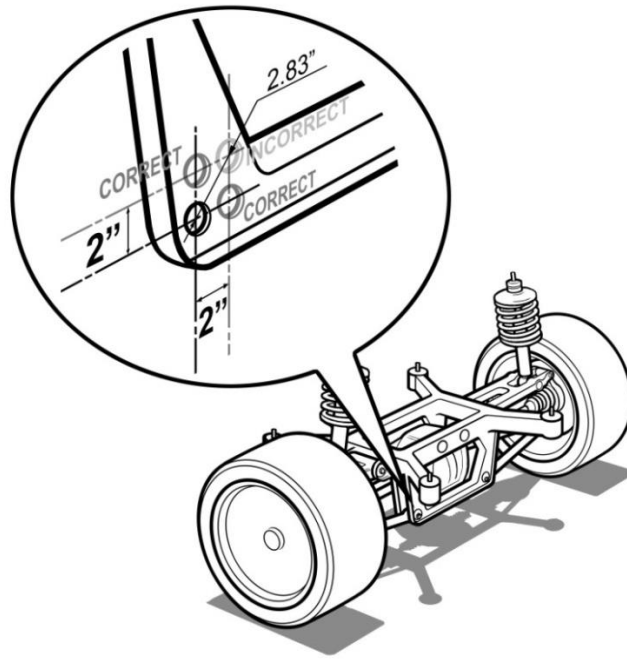

Figure 8
- H. This will be measured center to center from the original pivot point to the new pivot point. Please refer to Figure 8. This rule only applies to vehicles with a rear subframe